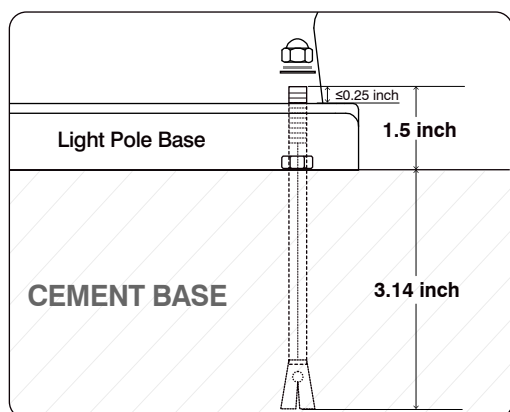

FIG.2
2. Install the expansion screws into the corresponding holes, leaving about 1.5 inches. (FIG.2)
5. Please note that after the **Light Pole Base** is placed in the **CEMENT BASE**, the height from the **Anchor Bolts** to the **Light Pole Base** should not exceed 0.25" (6.5mm) , as illustrated in FIG.2.